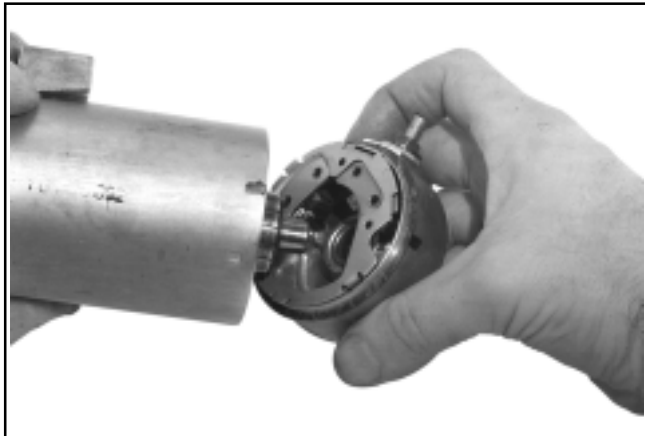

Figure 8-42. Installing End Cap Assembly.
- Assemble the end cap assembly to the starter, inserting the commutator below the brushes and gently guiding the end of the armature shaft into the bushing within the end cap, against the brush spring tension. See Figure 8-42.